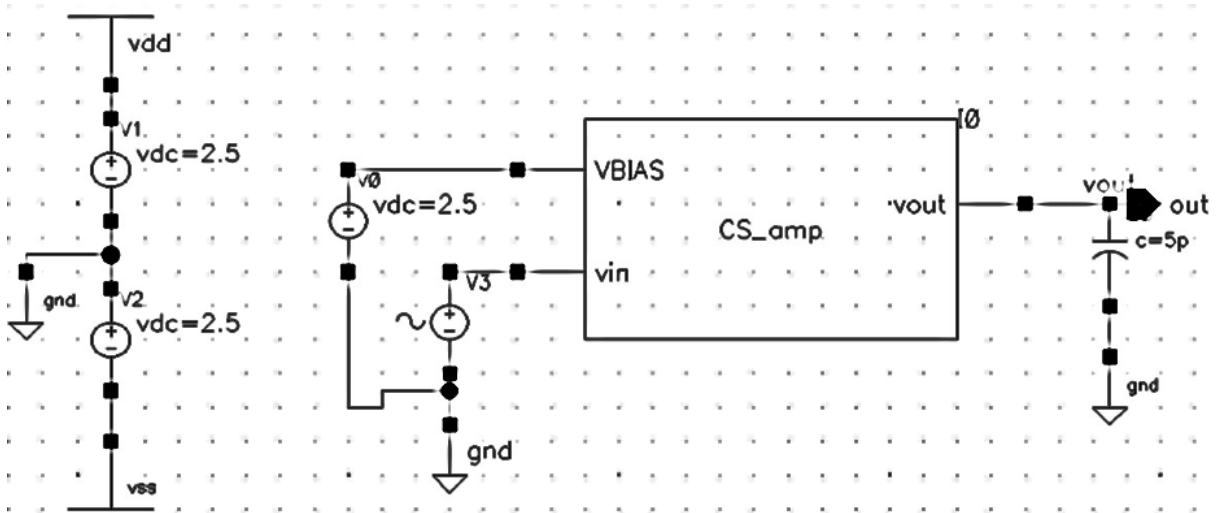

Figure 8.5: Test Schematic for CS Amplifier
1. Built the Test schematic based on Fig.8.5 and Table.8.2.